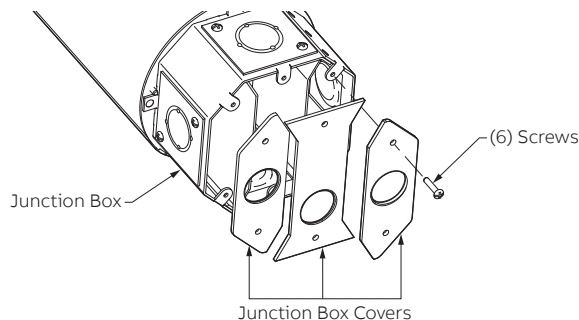

Figure 4
4.1 Remove the (3) Junction Box Covers from the bottom of the Junction Box by removing the (6) screws as shown (see Figure 4).
4.3 Replace the bottom (3) Junction Box Covers using 6 screws removed in Step 4.1. (see Figure 4)